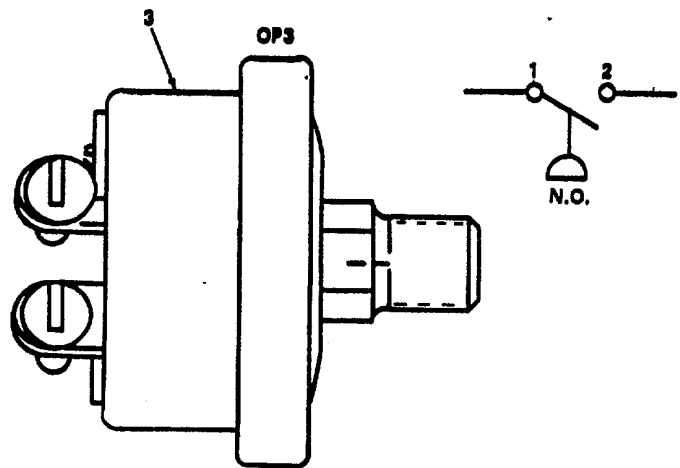

Figure 4-46. Pressure Switches
4-73. PRESSURE SWITCH. (See figure 4-40.) There are three pressure switches labeled no. 1, 2, and 3 on figure 4-46.
- a. Inspection. Inspect pressure switches (see figure 4-46) for loose mounting, loose connection, dents, and leakage.
- b. Test OP1. (See figure 4-46 and FO-3.)
- (1) With generator set at shutdown and MAINTENANCE LOCKOUT switch set to OPERATION, connect multimeter (set to measure DC volts) from terminal 26 of TB6 to terminal 12 of TB9; multimeter should read 24V DC.
- (2) Crank engine and observe multimeter; multimeter reading should drop to zero almost immediately.
- c. Test OP2. (See figure 4-46 and FO-3.)
- (1) With generator set at shutdown, connect an ohmmeter (set to Rx1 scale) from terminal 7 to terminal 12 of TB22; multimeter reading should be less than 1 ohm.
- (2) As engine is being cranked, ohmmeter reading should jump to infinite ohms.
- d. Test OP3. (See figure 4-46 and FO-3.)
- (1) With generator set at shutdown, connect ohmmeter from terminal 18 of TB20 to any convenient ground connection; ohmmeter reading should be infinite ohms.
- (2) Crank engine and observe ohmmeter; ohmmeter reading should drop to less than 1 ohm almost immediately.
- e. Replacement. (See figure 4-46.)
- (1) Disconnect leads from switch (1, 2, or 3).
- (2) Unscrew switch (1 or 2) from engine block.
- (3) For reassembly, screw switch into engine block and tighten to 20 foot-pounds (27 joules). Reconnect leads to switch.